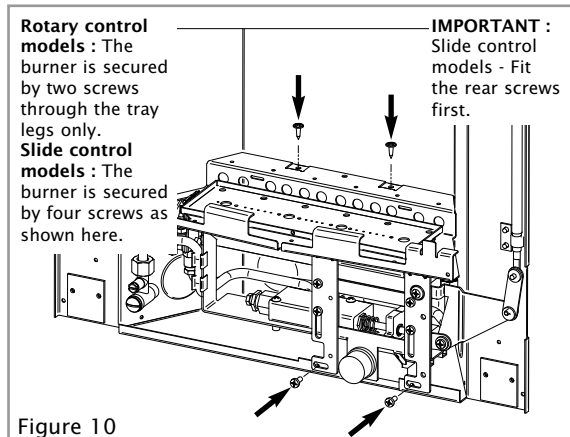

Figure 10
Slide control models : Fit the four securing screws - **two through the tray rear first** and then two through the legs of the tray to secure the assembly - see figure 10. Reconnect the slide mechanism by replacing the M4 nut and serrated washer on the assembly.
4. Disconnect the gas supply, and remove the burner securing screws (see figure 10 and refer to section 11.2)
Slide control models : Remove the four screws securing the tray to the firebox (two in the tray legs and two in the rear of the tray - see figure 10). Remove the M4 nut from the slide control linkage. Pull tray forward slightly and lift away. When re-fitting replace the rear retaining screws first, followed by the front (leg) retaining screws.